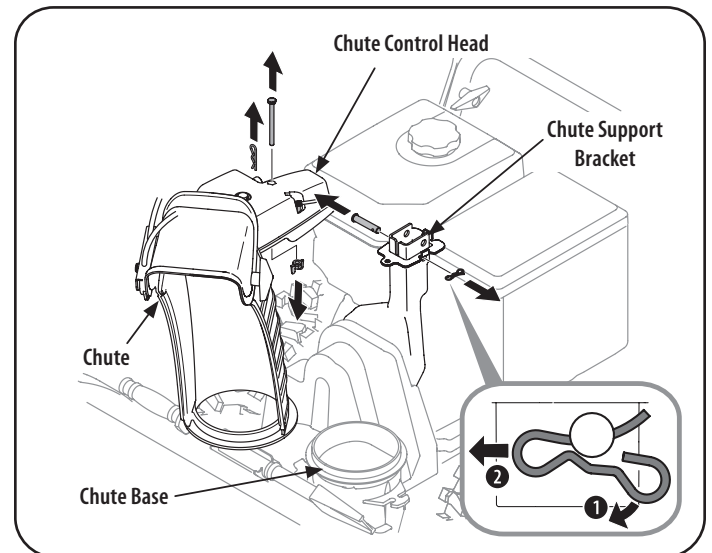

Figure 19
1. Remove hairpin clip, wing nut and hex screw from chute control head and clevis pin and bow-tie cotter pin from chute support bracket. See Figure 19.